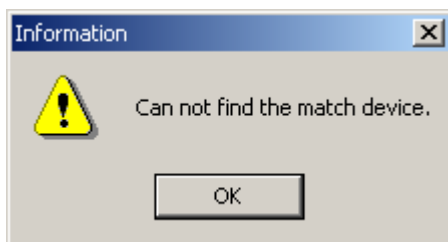

Figure 6-4 Failing to open the parameter pane
- Ensure that the device is configured before opening the parameter window. Otherwise, the Probe gives a prompt, indicating that the matched device cannot be found, as shown in Figure 6-4.